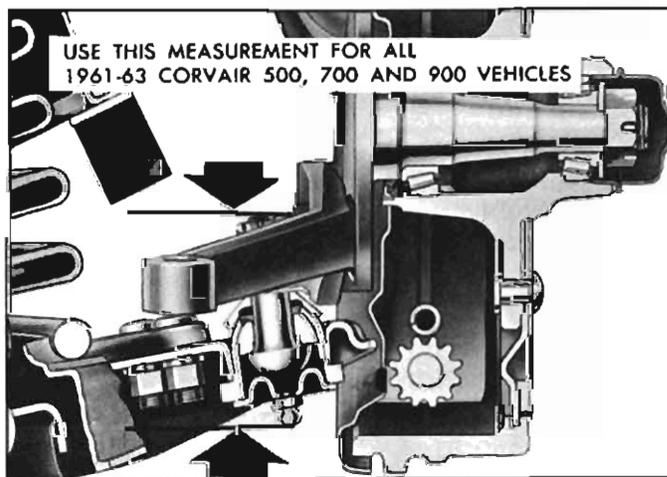

Fig. 3-1—Checking Lower Spherical Joint
2. With outside micrometer or caliper, measure distance from tip of lubrication fitting to upper surface of ball stud (fig. 3-1) and record the dimensions for each side.